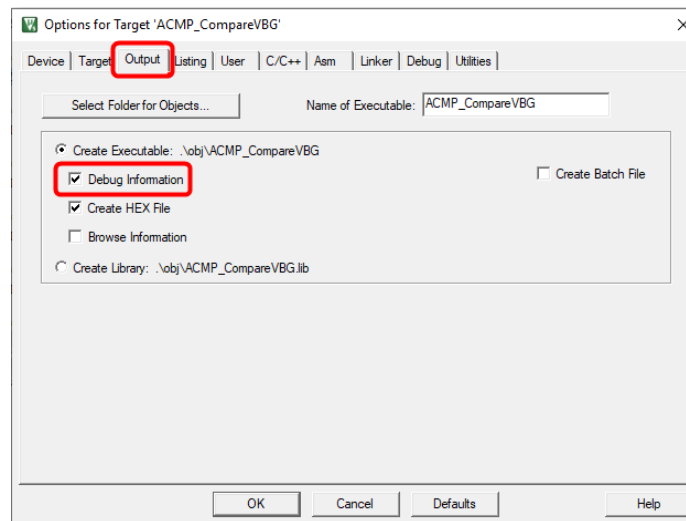

Figure 4-9 Enable Debug Information for Keil MDK
Step 3: Invoke **Project** → **Options for Target** → **Output**, and enable the **Debug Information** option, as shown in Figure 4-9.